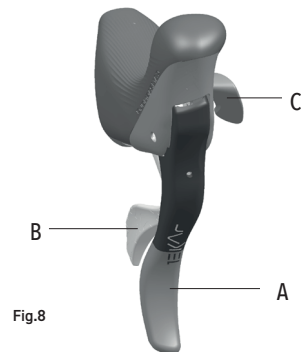

Fig.8
- Lever B (Fig. 8) on the right-hand control set operates the rear derailleur, lifting the chain onto the next highest sprocket.
- Lever B (Fig. 8) may be pushed by multiple consecutive clicks to lift (by up to 3 sprockets) the chain in a single action.
- Lever C (Fig. 8) on the right-hand control set operates the rear derailleur, dropping the chain onto the next lowest sprocket.